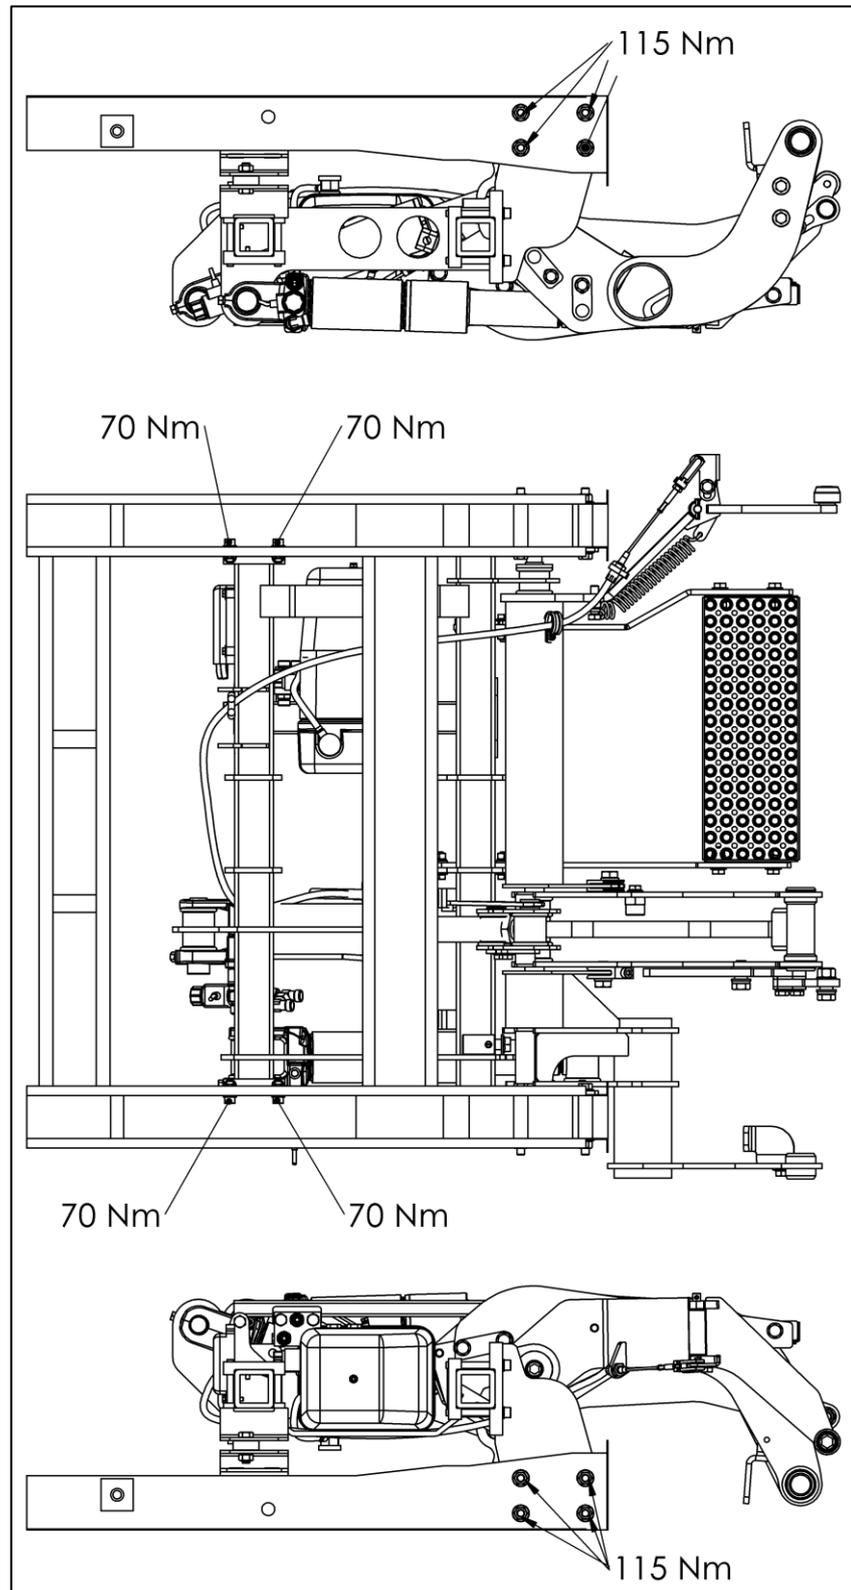

Fig. 32
- Secure the lifting gear (with adapters) to the vehicle and tighten to a torque of 115 Nm in the rear and 70 Nm in front (see Fig. 32).